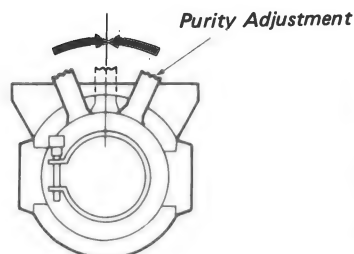

Fig. 3-3
8. Slide the deflection yoke backward to show red in the picture center and adjust the purity magnet to obtain a horizontal symmetry. (See Figs. 3-3, 3-4, and 3-5.)